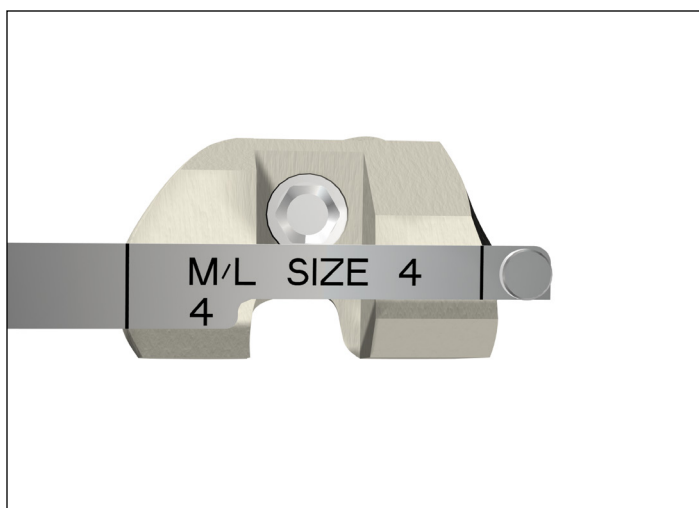

Figure 63
► **Note:** Pay careful attention to match the femoral size to the planned restored joint-line as opposed to flush with the surfaces of the femur. A long engraved line on the sagittal profile of the femoral sizing templates indicate the boss position of the femoral component, while the shorter engraved lines above and below represent the boss position of the femoral component with 2mm and 4mm anterior and posterior offsets, respectively. In addition, along the handle of each femoral sizing template are two additional tick marks, which represent the M/L width of the corresponding size femoral component (**Figure 63**).